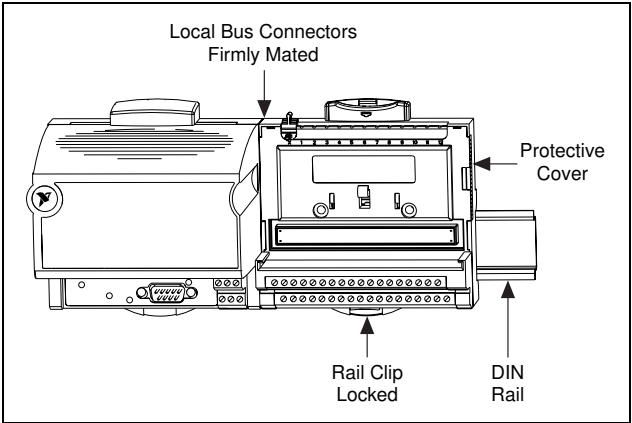

Figure 4. Network Module and Terminal Base Mounted on a DIN Rail
4. Place the protective cover over the local bus connector of the last terminal base in the bank. Figure 4 shows an installed FP-3000 network module on a DIN rail.